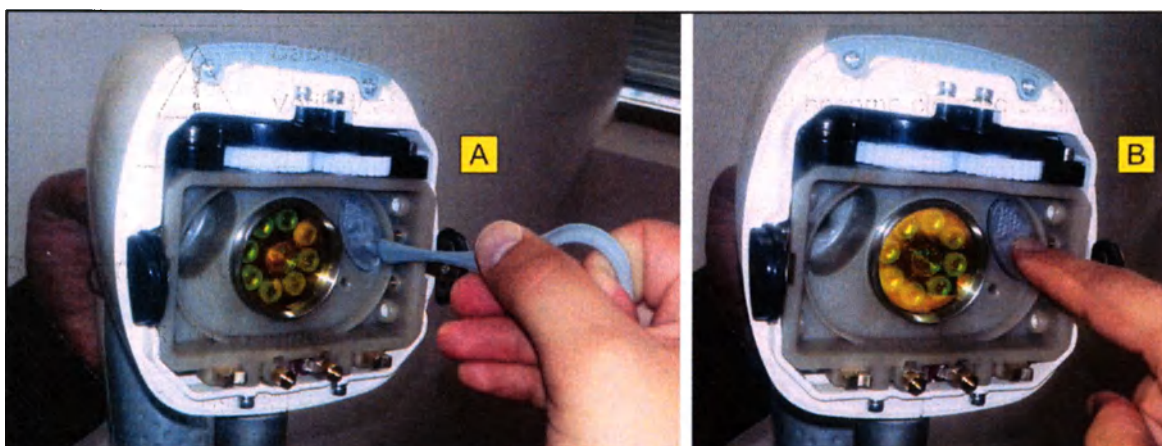

Figure 41: Replacing the VSmooth Applicator's Filters
- Replace the two filters (see Figure 41) according to the schedule printed on the cover's box. Never use a pair of filters for more than 10 accumulative hours.
Refer to Figure 41: